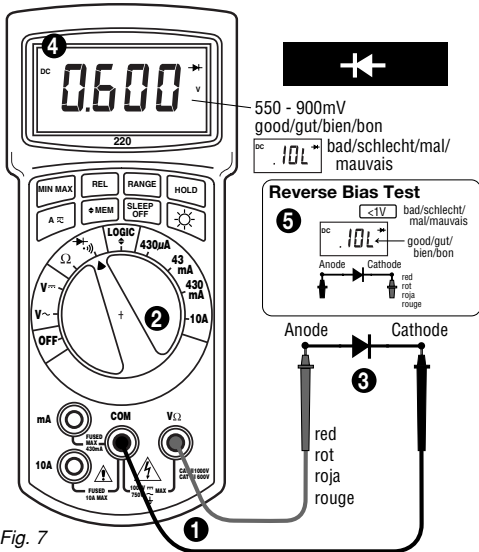

Fig. 7
DIODE AND CONTINUITY TEST (See Fig. 7)
test leads as shown in figure 7. ② Set the Function/range switch to $\rightarrow \rightarrow \rightarrow$. ③ Apply probe tip of red lead to the anode and of black lead to the cathode of the diode. ④ The meter's display indicates the forward voltage drop (approx. 0.6V for silicon diode or 0.4V for germanium diode). An open diode is indicated by "I OL". ⑤ Reverse test lead connections to the diode to perform a reverse bias test. "I OL" indicates a good diode. **Notes:** "I OL" for both reverse and forward bias tests indicates an open diode. A low voltage reading for both bias tests indicates a shorted diode. If the diode is shunted by a resistor of 1000 ohms or less, it must be removed from the circuit before taking the measurement. Bipolar transistor junctions may be tested in the same manner described above as emitter-base and base-collector junctions are diode junctions.
D • Dioden- und Transistortest (siehe Fig. 7)
E • Comprobación de diodos y transistores (vea Fig.7)
F • Test de Diodes et de Transistors (voir Fig. 7)